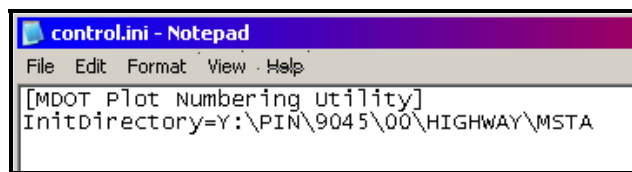

Figure 1-17: Control file
- ❗ *If you get an error when first opening the utility, it may be because a PIN number that was previously renumbered no longer exist. To fix this problem, browse to your C:\windows directory and open the control.ini file. Delete the InitDirectory line in this file and the path to the PIN that it refers to. Reopen the Sheet Renumber Utility: (Figure 1-17)*